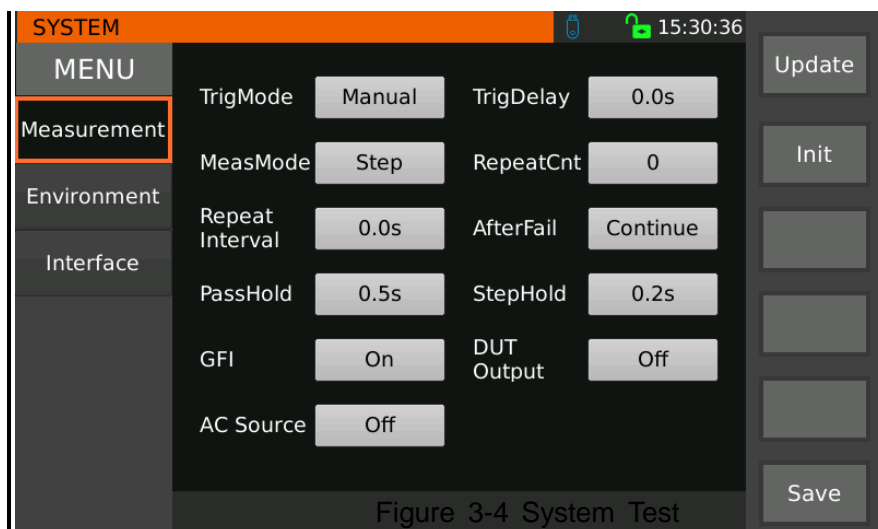

Figure 3-4 System Test
- 1、 Press [SYSTEM] key to enter the system setting interface shown in Figure 3-4.
The test-related parameter settings in the system setup are shown in Figure 3-4.
If the AC power supply setting in Figure 3-4 System Test Parameter Setting is set to "On", the setting option of AC power supply will be added when entering the Electrical Performance Test Setting Interface (Figure 3-29) and Leakage Current Test Setting Interface (Figure 3-33). The output voltage (test voltage), test frequency, upper limit of current, whether zero line is grounded or not (zero-line grounding), voltage range, and overload constant current of AC power supply can be set, and the detailed parameter description can be found in the description of AC power supply in 3.5.6 and 3.5.7.
- 1、 Press **[SYSTEM]** key to enter the system setting interface shown in Figure 3-4.
- 1、 Press **[[SYSTEM]]** key to enter the system setting interface shown in Figure 3-4.